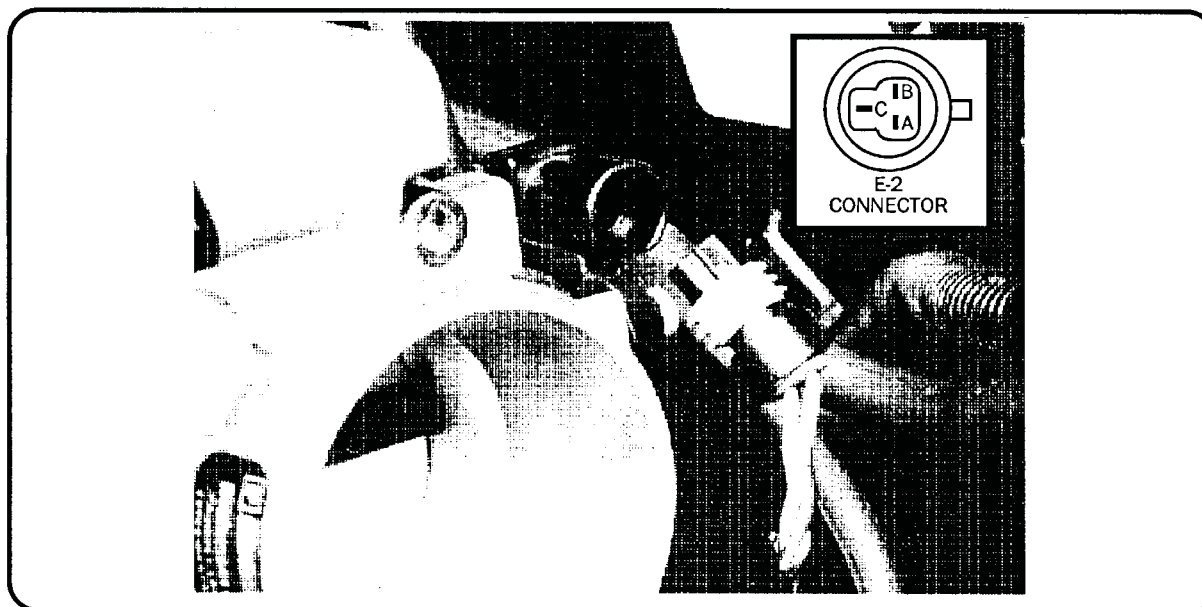

Figure 4.
The **Throttle Position Sensor** is located on the engine throttle body. It sends an analog (straight voltage) signal to the ECM. The ECM sends a five volt reference signal to terminal B at the E-2 connector (See Figure 4) and also sends a ground through terminal A at the same connector. The TPS uses a third wire (C) to send the ECM a continuous signal that varies in voltage as the position of the throttle plate changes. When the throttle plate is closed, the signal voltage is low (Approximately .5 volt). As the throttle is opened, the signal voltage increases. At wide open throttle the signal voltage is approximately 4.5 volts. The ECU monitors the signal that goes to the ECM to determine throttle position.